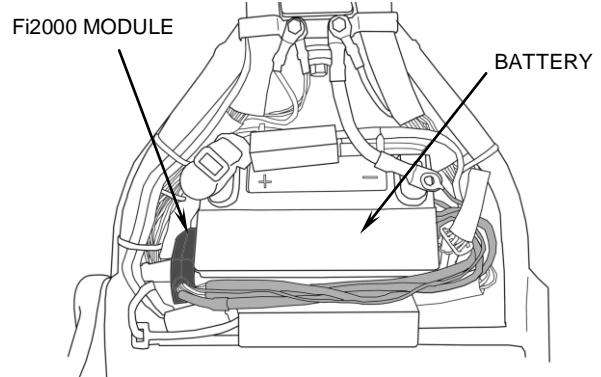

FIGURE 3
12. Reinstall the battery to the stock location and connect the Fi2000 ground wire to the negative post along with the other accessory wires. Connect the battery terminals to their appropriate posts. See Figure 3
14. Place the Fi2000 box on the left side between the battery and frame. See Figure 3.